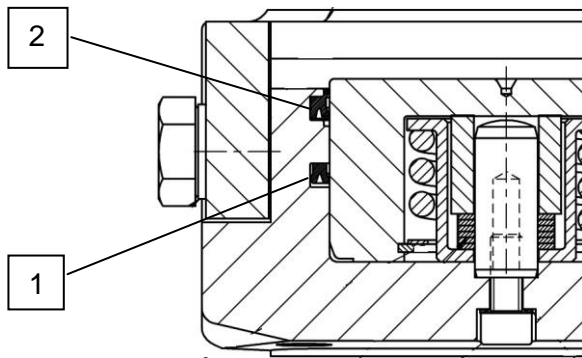
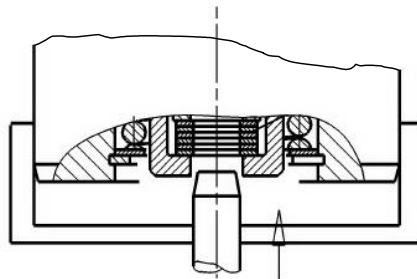

Fig. 6.1
Fig. 6.2
- Remove the brake caliper-halves. Remove the 4 cylinder screws (11). Note that the cylinder screws are slightly pre-tensed by the compression springs (12). Connect a hydraulic fluid line to each of the brake caliper-halves and connect a hydraulic hand pump to the second hydraulic fluid connection. Hold or clamp the brake housing (5) firmly in place. Push the brake piston (4) out with the aid of the hand pump. Make sure that the brake pistons is pressed evenly out of the brake caliper housing (5).
- Remove the old seal (1) and the old double wiper (2) and install the new seal and the new double wiper in the brake caliper housing (5). Observe the correct installation position for the seal as shown in Fig.6.1. The incorporation should be occur by hand to ensure that the sealing edge is not damaged. The seal and the doble wiper can be inserted more easily be bending it into a kidney shape and laying it into the groove. Oiling the seal with a light coat of Molycote prior to assembly. Centering befor installing the piston (4) the gripping rings in the piston to bore or outside diameter of the piston with a conically turned pin (see Fig 6.2). Push the piston centric with a press or beat with a plastic hammer into the cylinder bore to the stop point.